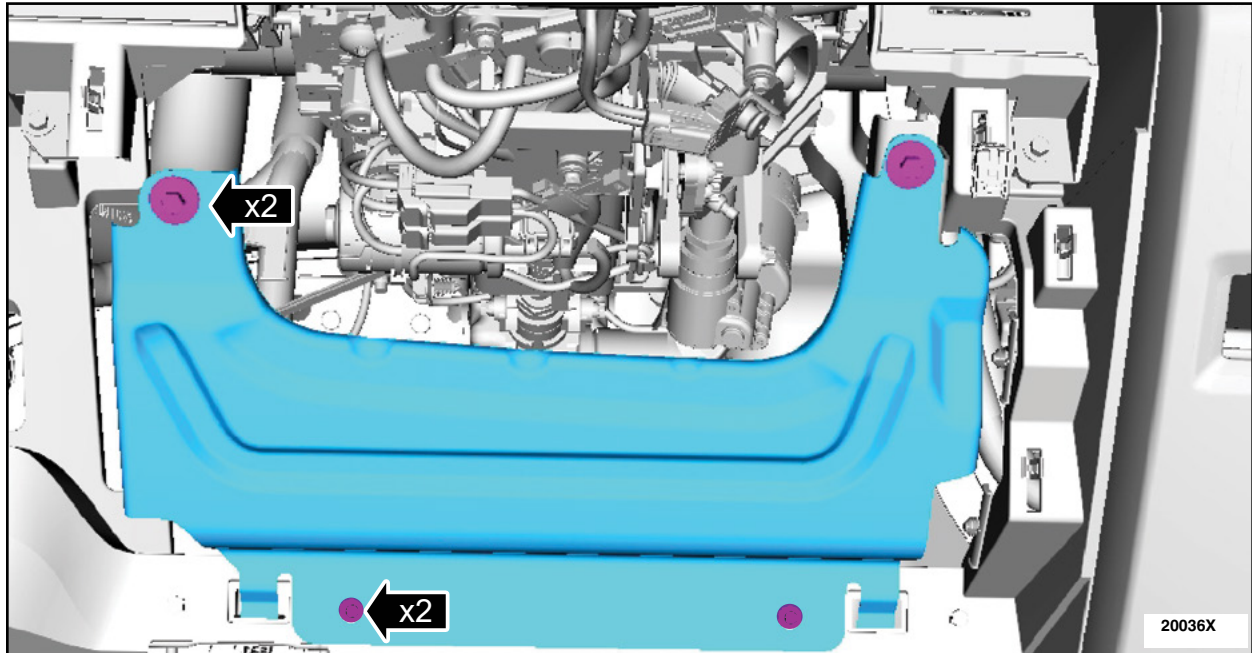

FIGURE 33
51. Install the steering column reinforcement panel and the bolts. See Figure 33.